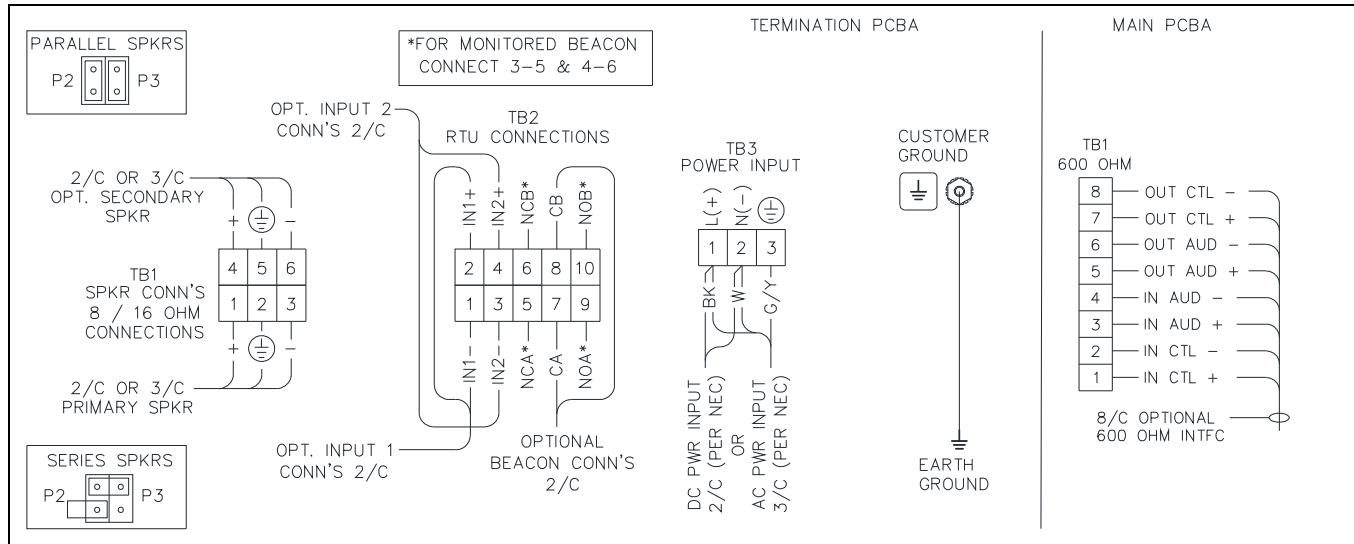
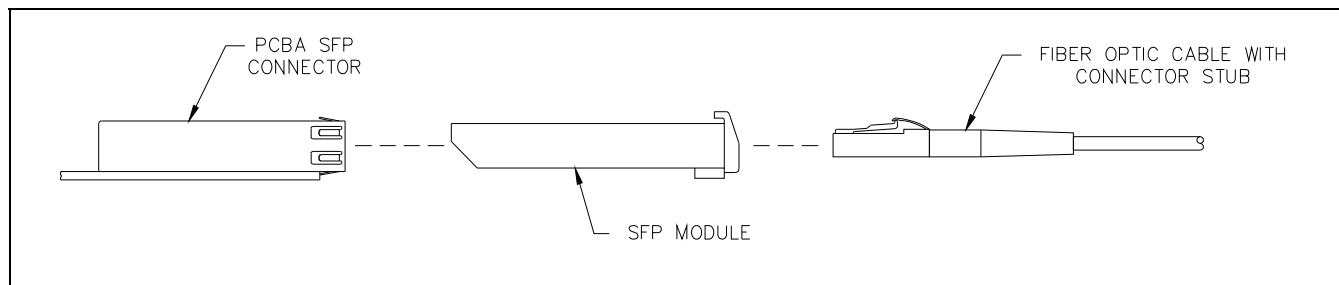

Figure 3. SP2 Connection Diagrams
Figure 4. SP2 Fiber Optic Ethernet Connection
SP2 stations provide terminal blocks, on the termination PCBA, located in the rear enclosure, for field wiring the power, speaker, and RTU connections. The main PCBA, mounted to the back of the front panel, provides a pluggable terminal block for the 600-ohm audio connection (see Figure 3). The fiber termination PCBA, mounted on top of the main PCBA, provides fiber optic termination to the (customer supplied) Ethernet SFP transceiver (see Figure 4).
2. Secure it to the ground terminal located in the lower right corner at the back of the rear enclosure (see Figure 3).
5. Configure the speaker jumpers, P2 and P3, for the impedance of the connected speakers (see Figure 3).
9. Insert the SFP transceiver into the SFP receptacle (see Figure 4).
12. Plug the fiber connector into the SFP (see Figure 4).